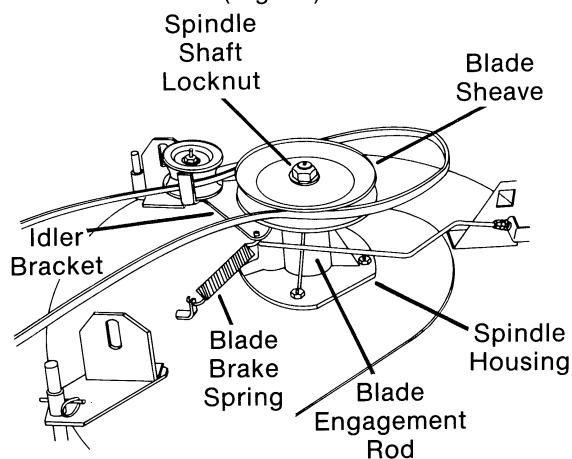

FIG. 15
- B. Detach blade brake spring from blade engagement rod at idler bracket. Remove spring from mower deck. (Fig. 15)
- H. Holding bottom end of spindle shaft, remove top spindle shaft locknut holding blade sheave to spindle shaft. (Fig. 15)
- I. Remove blade sheave and spacer from spindle shaft. (Fig. 15)